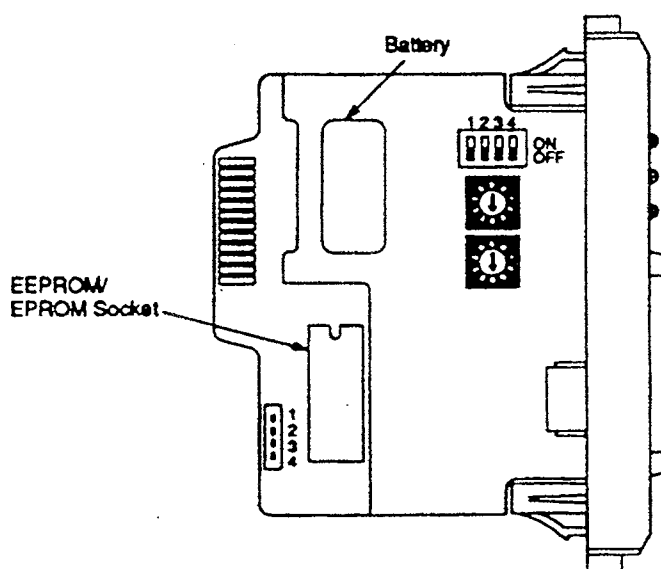

Figure 7-1 EPROM/EEPROM Socket Location
3. Insert the EEPROM, aligning the notches on the EEPROM and the socket. Refer to Figure 7-1.